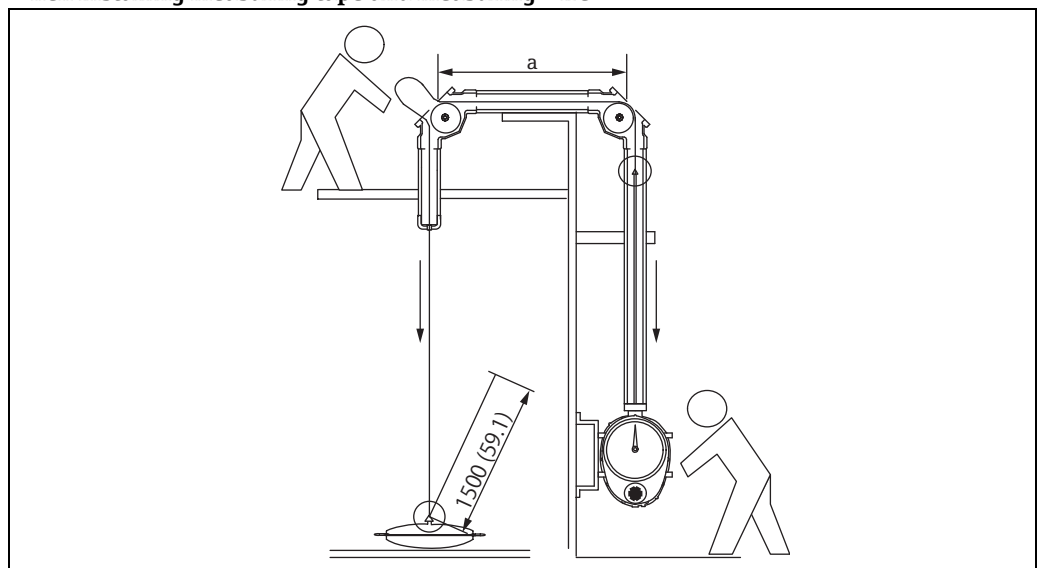

Figure 34: Measuring tape wire installation
4. Insert the perforated and looped end of the measuring tape thorough 135° sheave elbows to LT (refer to Figure 34).